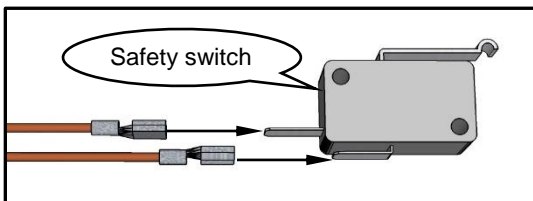

Figure 30
- 6** Connect “red” and “black” wires to door safety switch using the provided spade quick connectors. It does not matter which terminal the “red” and “black” wires are connected to. (see Figure 30)